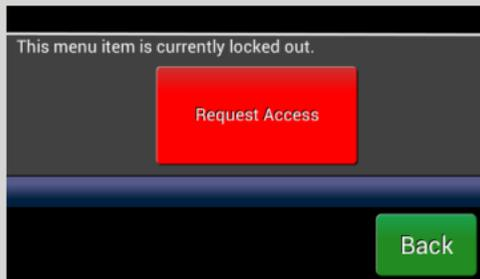

Figure 4 - REQUEST ACCESS SCREEN
3. **CALIBRATION MENU and SERVICE ACCESS** - When selecting either of these menus, a screen (Fig. 4) requiring permission-based access will display. Touch Request Access and enter **Code 6150**. You will see the Access Enabled screen and will be directed back to the menu where the Calibration and Service Access will now be available for selection.